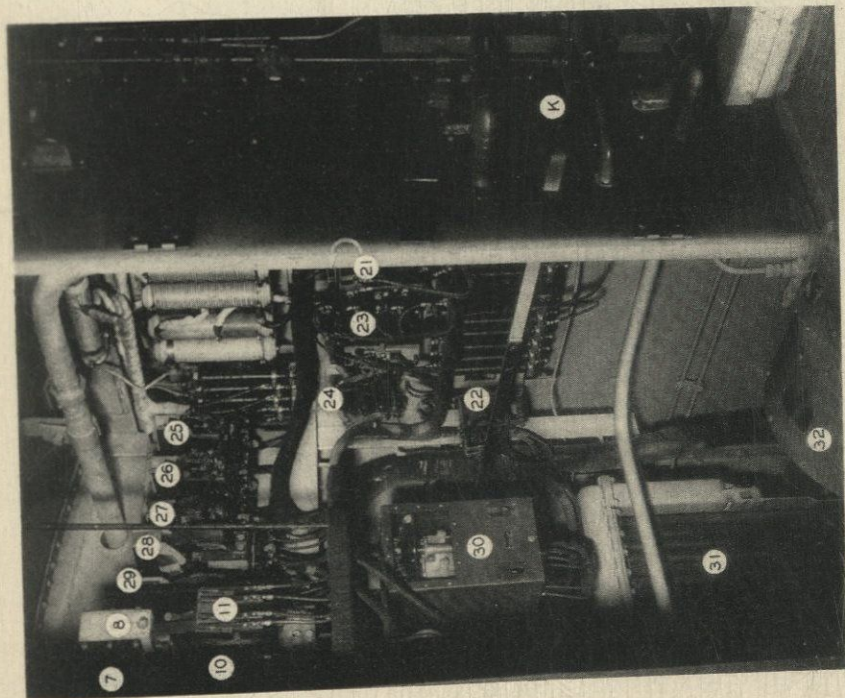

Fig. 18
*Shown at 28 and 29, Fig. 18.
77. THE ENGINE ROTATES, BUT DOES NOT FIRE. There are two things to keep in mind about the firing of a Diesel engine: (1) Atomized fuel must reach the cylinders, (2) there must be sufficient compression so that the air compressed above the piston will be hot enough to ignite the fuel.
83. The locomotive cannot be moved if the ground protective relay contacts are open. This relay is shown at 21 in Fig. 18. There is a red fiber latch at the top of this relay. The relay is reset by lifting this latch. When the latch is lifted, the contacts will close; then the locomotive can be started. However, the ground relay may trip again when the locomotive is started. The circuit will be broken a second time if the ground still exists. When making the routine inspection prior to starting the locomotive, it is well to make certain that the armature of the ground relay is not latched with its contacts open.
102. Figures 17 and 18 are two views looking into the electric cabinet from different angles. The doors of the cabinet were removed for the purpose of taking the photographs. The names of some of the items of electrical equipment are listed beside the illustrations. The location of three of the four fuses in the electric cabinet is shown in Fig. 17. The starting contactors are shown in Fig. 18. The location of the ground relay also is shown in Fig. 18. Explanations of the electrical apparatus and their circuits are given in later texts.